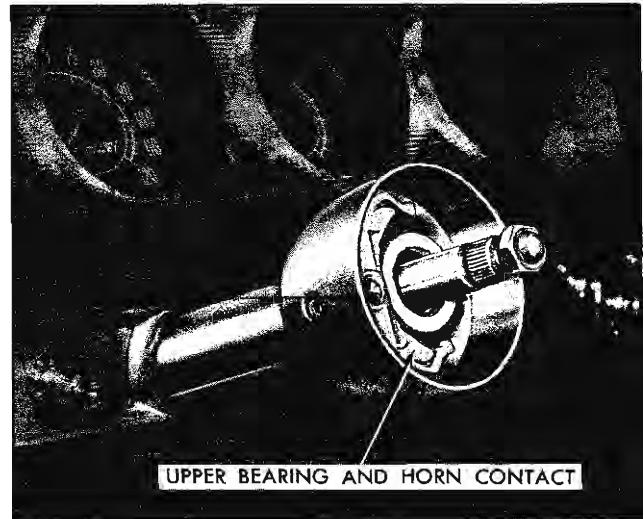

Fig. 9-10 Upper Steering Column Assembly
4. Remove upper steering column jacket bezel screws (Fig. 9-10) and upper steering column jacket clamp, located just under front edge of instrument panel.
4. Install upper bearing and horn contact (Fig. 9-10).
NOTE: Install steering column upper bearing prior to installing seal and collar (Fig. 9-10).